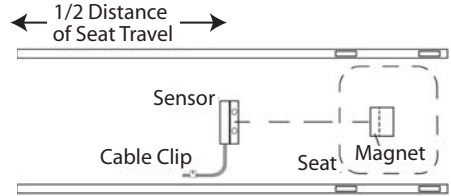
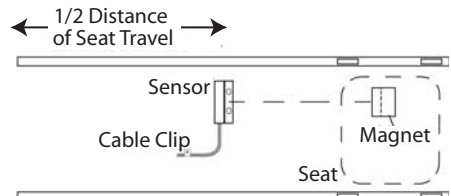
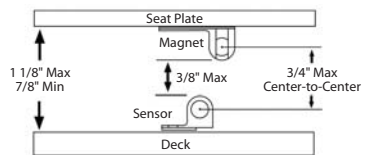

FIGURE 1a: SENSOR & MAGNET INSTALLATION (Sensor Installed on Centerline of Seat)
FIGURE 1b: SENSOR & MAGNET INSTALLATION (Sensor Offset Centerline of Seat)
FIGURE 2: SENSOR & MAGNET SPACING
Refer to Figures 1a and 1b. Note the position of the sensor - it should be close to the center of the seat travel and it **MUST** be perpendicular to the long axis of the shell.
It is not necessary for the sensor and magnets to be centered between the rails as shown in Figure 1a. They may be positioned off center as shown in Fig 1b. However, the holes in the magnet assembly **MUST** pass directly over the holes in the sensor. The dashed horizontal line in each figure indicates the correct alignment.
Because the distance between the seat plate and the deck varies considerably from shell to shell, you should start by measuring this distance. Refer to Figure 2.
- If the distance measured as in Figure 2 is between  $\frac{7}{8}$ " and  $1 \frac{1}{8}$ ", you may mount the sensor and magnet with no further adjustment.
- If the distance measured as in Figure 2 is **GREATER** than  $1 \frac{1}{8}$ ", you will need to make a spacer of appropriate thickness. You may choose to shim the sensor or the magnet; whichever is easier. **DO NOT** use any magnetic material for your shim. Many boat builders have shims designed to fit their particular seats.
- If the distance measured in Figure 2 is **LESS** than  $\frac{7}{8}$ ", the magnet and the sensor will interfere. Try mounting the magnet on the upper side of the seat plate or the sensor on the underside of the deck. As a last resort, you will have to remove material from either the seat or the deck (this almost never needs to be done).
- 5) Return the stroke seat to its slide and check that the clearance between the magnet and sensor is no more than 3/8" (refer to Fig 2). Check also that the magnets pass directly over the sensor (refer to Figures 1a, 1b).